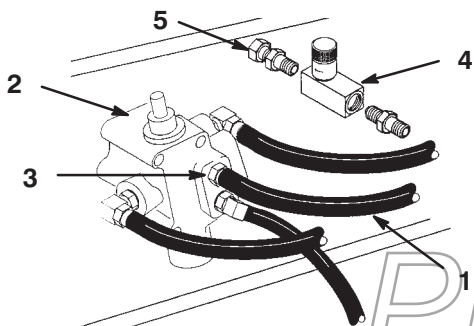

Figure 3
- Remove hose at valve body (Fig. 3).